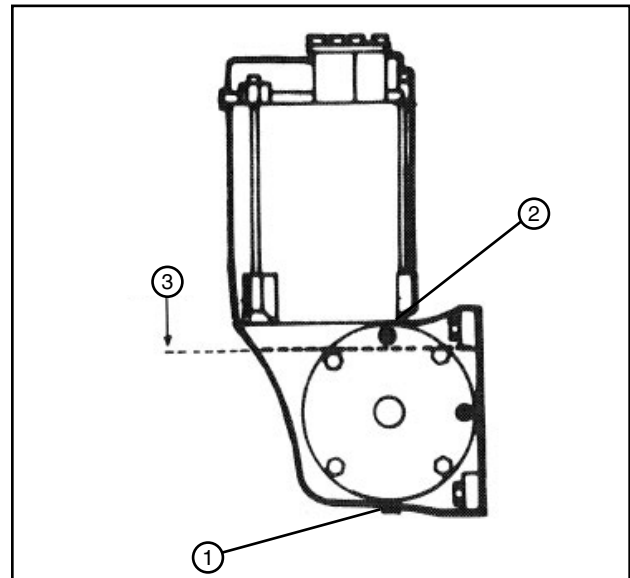

Figure 75-2 1. Drain Plug
1. Remove the drain plug and the fill plug. Drain the oil and install the drain plug. See Figure 75-2.
2. Fill the gearbox to within 1/2 in (12.7 mm) of the bottom of the fill plug hole with Valley Gear Lube. The capacity of the gearbox is approximately 1 quart (0.9 liter). See Figure 75-2.